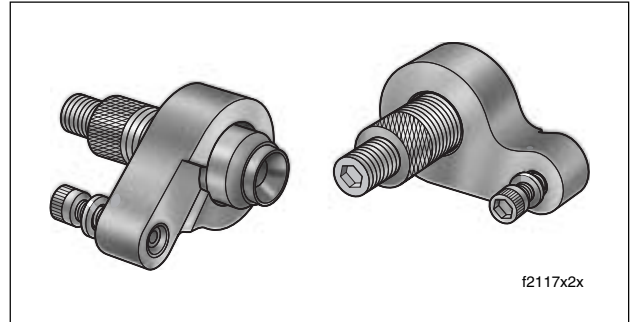

Figure 2-35. Vehicle Alignment Tool (Part No. HD-46247)
9. Obtain Vehicle Alignment Tool (HD-46247). See Figure 2-35. Proceed as follows: